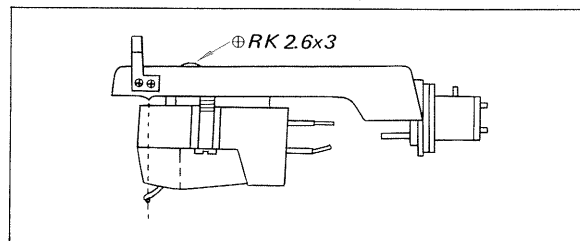

Fig. 2-7. Overhang adjustment
4. After installing the cartridge, readjust the stylus tip position by loosening the screw (⊕ RK 2.6x3) that aligns the stylus tip with the mark on the shell head as shown in Fig. 2-7.